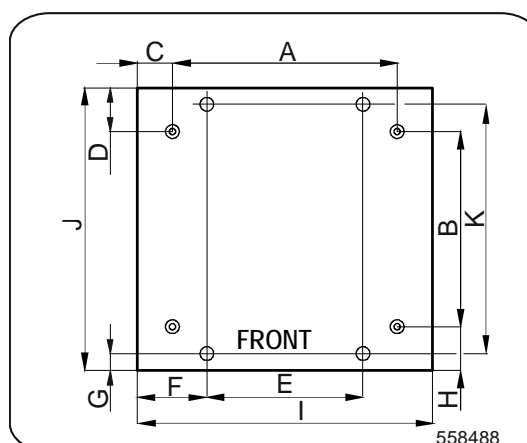

Figure 5
- Drill 2 holes for anchoring bolts, see Figure 5. Hole diameter in machine's base is 12 mm / 0.47".